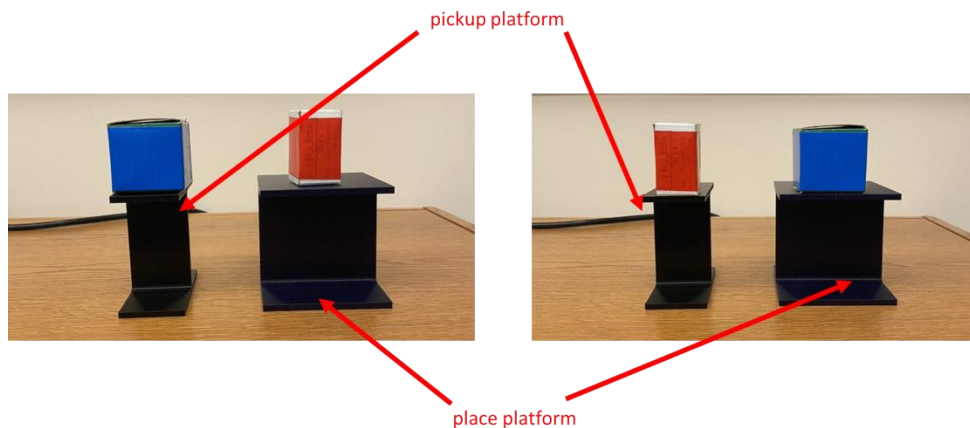

Figure 1. Pickup and place platforms with sample boxes.
- Pickup-and-Place: Starting from a fixed location, the vehicle will approach a "pickup" platform. At the customer's discretion, a large or small, red or blue colored box will be placed on the pickup platform. The vehicle will pick up the box. Based on the color of the box, the vehicle will find and follow the colored path to the "placement" platforms. There are 4 placement platforms. Based on the size and color of the box, the vehicle will place the cube on the appropriate platform. The cube is fragile and cannot be damaged (e.g. crushed or dropped) throughout the pickup, transport, and place processes. The pickup and place platforms are shown in Figure 1. Note the difference in size of the pickup and place platforms. The initial layout of the pickup and place field is shown in Figure 2. The **revised layout** is shown in Figure 3.